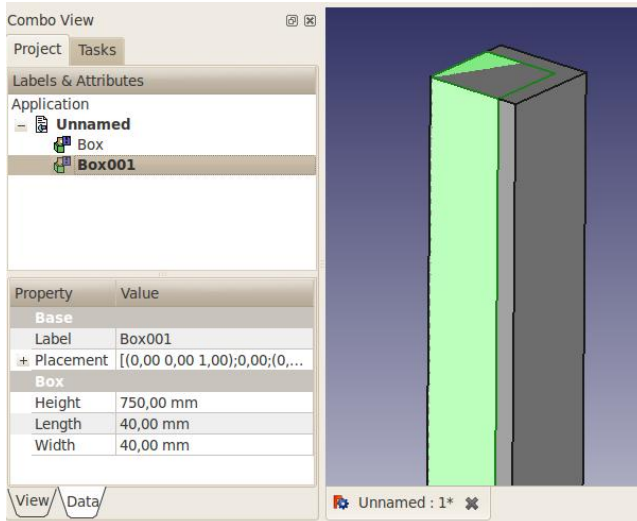

Fig. 1.2 The second box on top of the first one, ready to be subtracted
- Create a second box the same way, but with values 750, 40 and 40mm. By default this box will be superimposed on the first one. (see Fig. 1.2)